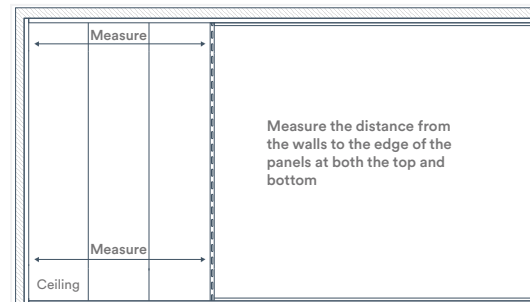

Fig. 10
- Periodically check your installation to ensure the panels continue to be installed in straight, even rows. To do this, measure the distance from the wall to the edge of your panels at both ends of the panel (Fig. 10). If both measurements are identical, the installation is adequately aligned. If the measurements are uneven, you will need to correct the positioning of your board.